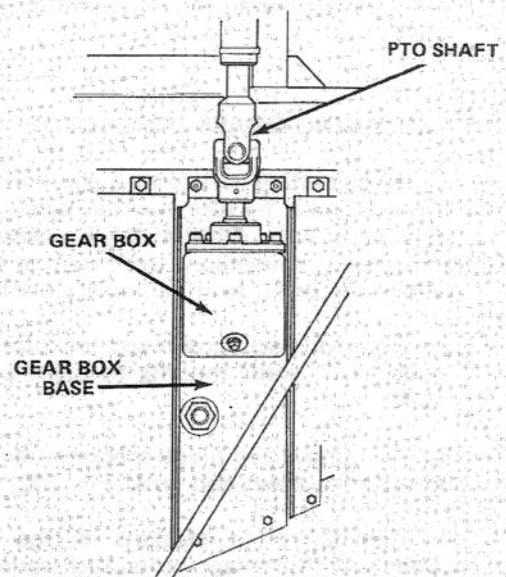

Figure 106
4. To install new belt, the gear box base must be removed. To do this, remove four carriage bolts, lockwashers and nuts holding gear box base (Fig. 106).
6. Install gear box base with carriage bolts, lockwashers and nuts (Fig. 106).